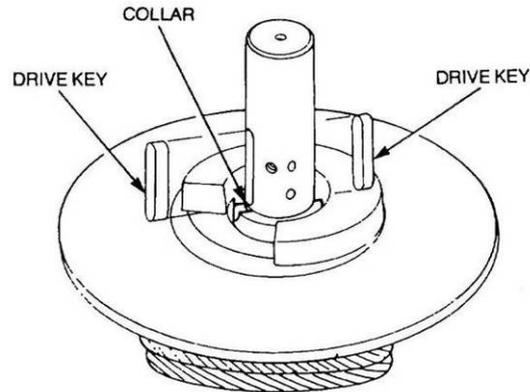

Figure 339 Removal of the Winch Drum
- g. Remove the two drive keys from the shaft and slide the collar off the shaft (Figure 339). Withdraw the drum from the shaft, taking care not to lose the brake pads and springs.